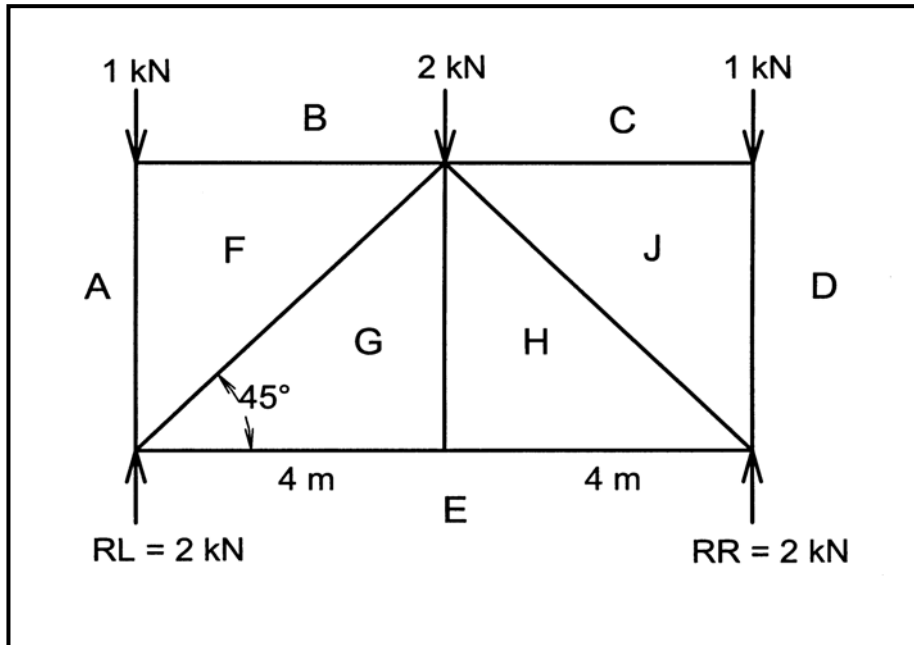

FIGURE 5.4
5.4 A simple framework is given in FIGURE 5.4. Graphically determine the magnitude and nature of forces in the members of the framework and tabulate your answers. Use ANSWER SHEET 5.4 to answer this question.